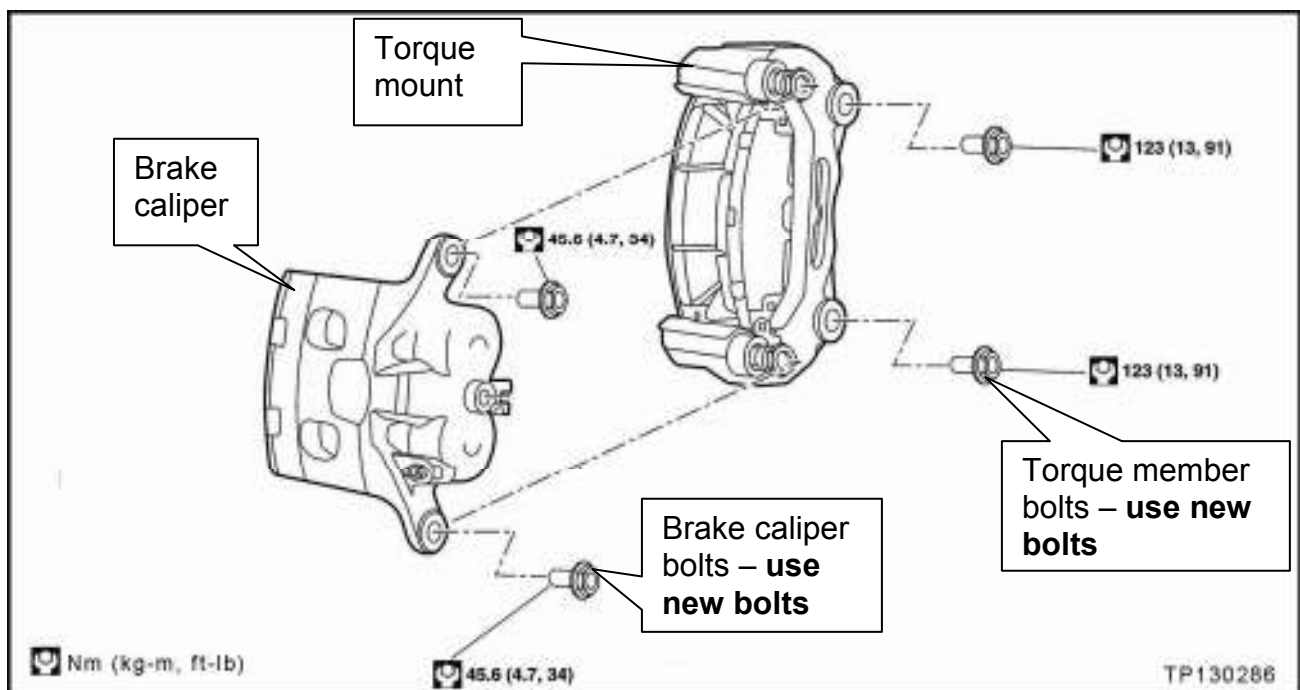

Figure 2
- Refer to Figure 2 as needed.